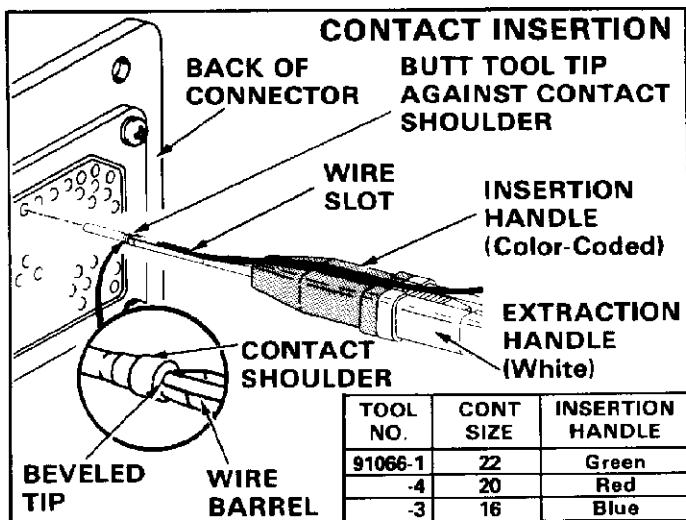

Fig. 9
AMP Insertion/Extraction Tools 91066-[] are designed to insert and extract Size 22, 20, and 16 contacts. The white end of the tool contains the extraction tip. The other end, which is color-coded to contact size, contains the insertion tip. See Figure 9.
A. Inserting Size 22, 20, and 16 Contacts (Figure 9)
3. Position the tool tip against the contact shoulder as shown in Figure 9.